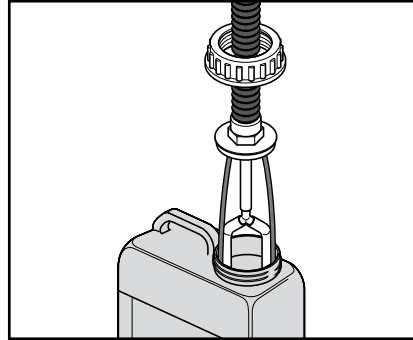

Fig. A2
- Remove the pump unit (fig. A2).